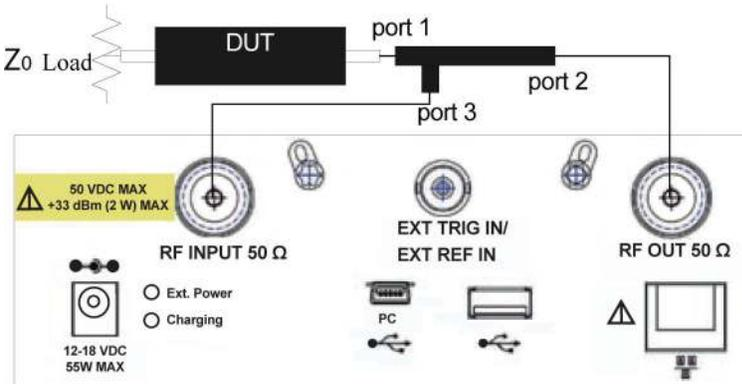

Figure 3. Reflection coefficient measurement setup
Connect the RF OUT to Port 2 of the directional coupler. Connect the DUT to Port 1. Connect the isolation arm to RF IN. In Figure 3, Port2 and 3 are the isolation ports; port1 and port3 are coupled ports, and while Port1 and 2 are through ports pair.
- 2 Determine a reference voltage before making the reflection measurement. Use reflected power from an open as reference voltage. Replace the DUT in Figure 3 with an open. After total reflection the reflected wave enters the analyzer's RF INPUT through the directional coupler. Set reference power to 0 dB (Total reflection $|r|=1$, $20 \lg 1 = 0$ dB). After connecting an open correctly and completing a sweep, normalize the analyzer as follow: [MEAS] > {Amplitude On} > {Normalize OFF} > {Store Ref 1->4} > {Normalize On}.